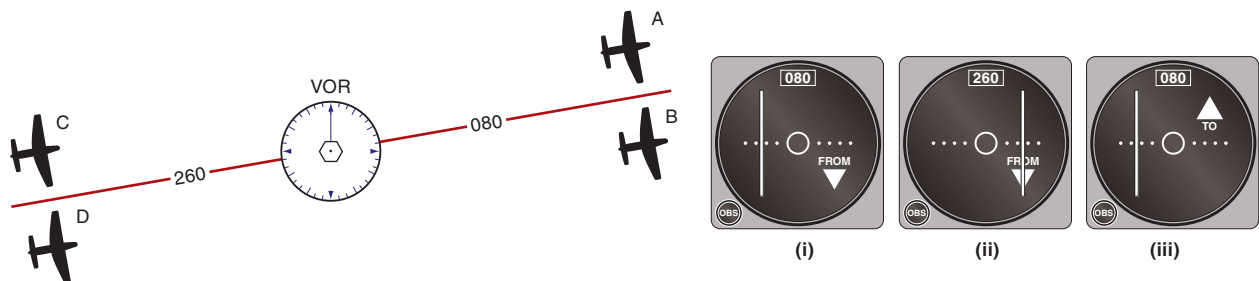

Figure 17-47 Question 22.
22. Refer to figure 17-47. Specify which of the airplanes on the left could have the VOR indications given on the right.